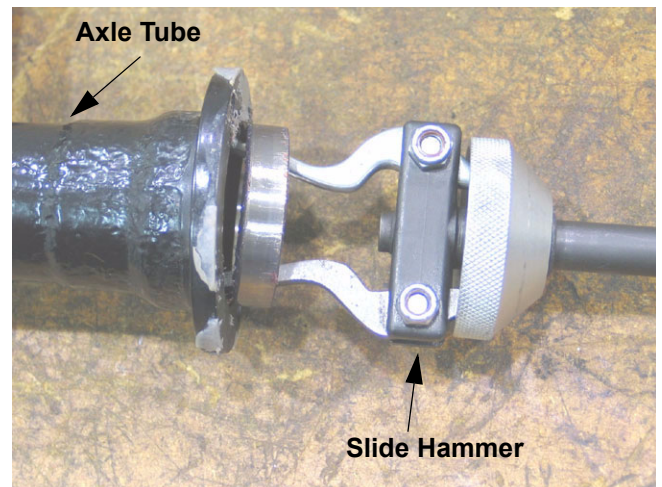

Figure 14.7
14.7. It may be necessary to use a slide hammer to draw the bearing race out of the axle tube. See Figure 14.7.